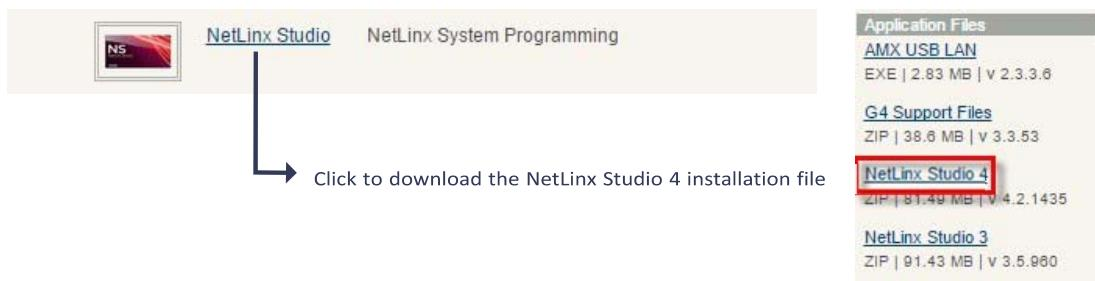

FIG. 156 NetLinx Studio v4 download links on www.amx.com
2. Click the *NetLinx Studio 4* link download the installation file (FIG. 156):